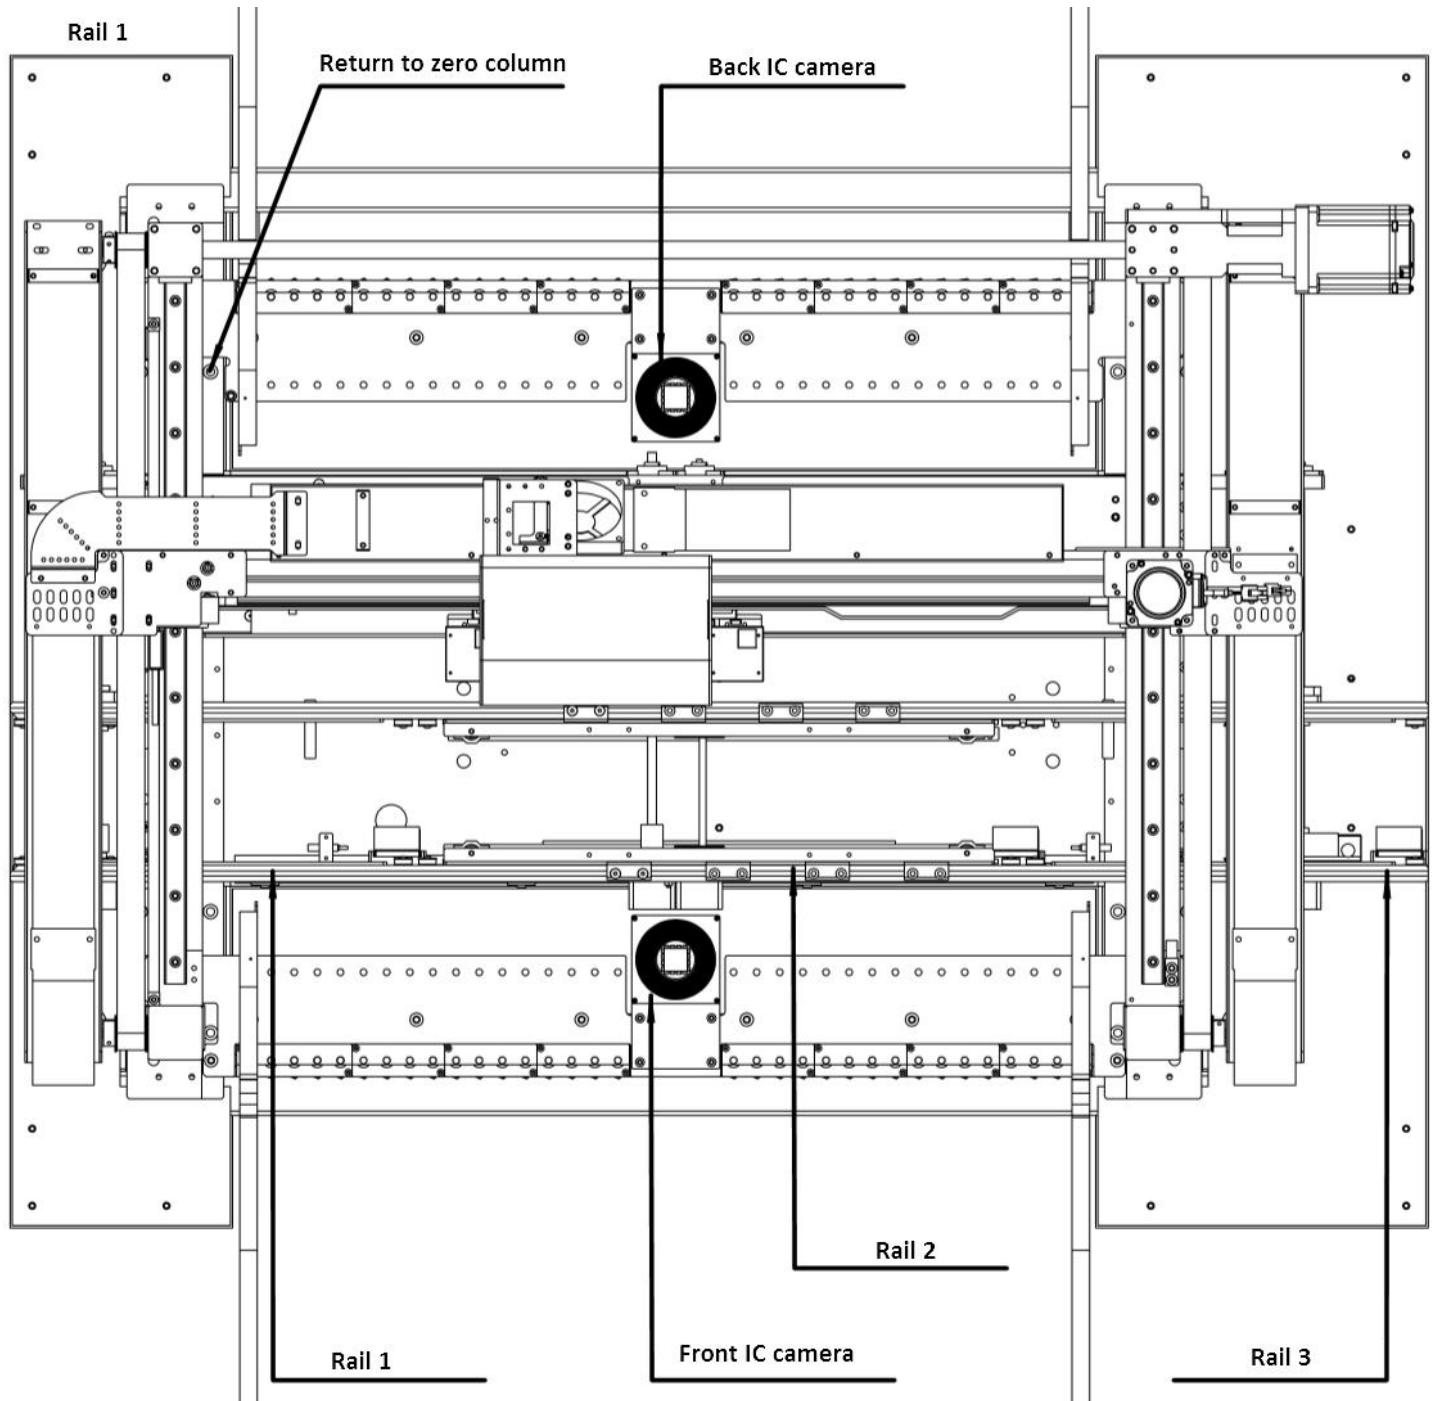
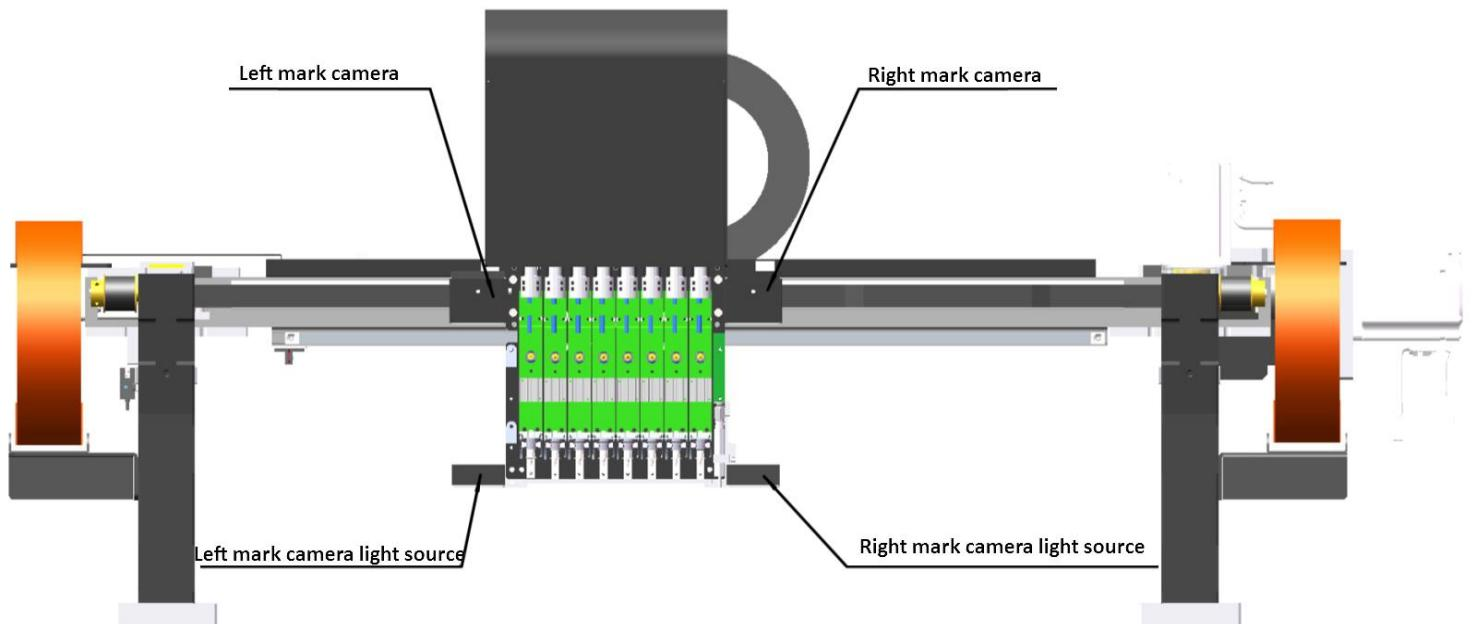

Figure 3- Top view of main mounting area
Figure 5-Main Placement Head Camera
**Warning of failure risk of camera identification, please referring to Figure 3 and Figure 5: The following parts are forbidden to touch and impact**
**Warning of accuracy failure risk, refer to Figure 3: The following components are prohibited from touching and impacting.**